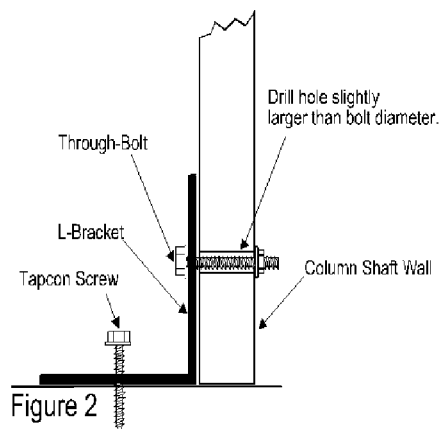

Figure 2
4. IF INSTALLATION REQUIRES SOME METHOD OF SECURING THE COLUMN IN PLACE BEFORE LOAD IS APPLIED, AN L-BRACKET WITH NUTS AND BOLTS (SEE FIGURE 2) NOTE: ALWAYS DRILL CLEARANCE HOLES IN COLUMNS AND SECURE WITH THROUGH-BOLTS --- DO NOT USE SCREWS --- AND DO NOT OVER-TIGHTEN.